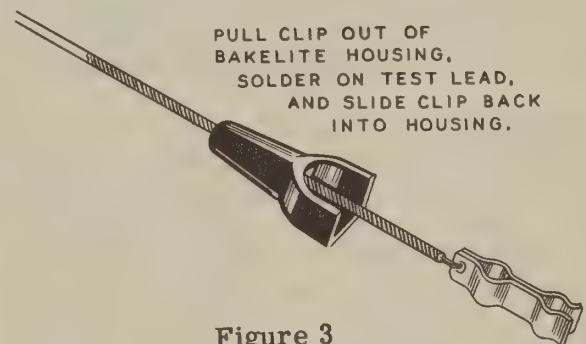

Figure 3
- () Connect a red 30 volt power transformer lead to CC3 (S).
- () Connect the red 100 volt lead to R2 (NS). (The red 250 volt lead is left unconnected at this time.)
- () Mount the .1 μ fd condenser between R2 (S) and Q3 (S).
- () Connect the black 0 volt transformer lead to N2 (S).
- () Connect the black 100 volt transformer lead to DD3 (S).
- () Connect the black 125 volt power transformer lead to DD1 (S).
- () Connect the white 0 volt transformer lead to PP2 (S).
- () Connect the 2500 Ω 5 watt wire-wound resistor between Z1 (NS) and Z2 (NS).
- () Run a wire from Z2 (S) to CC2 (S).
- () Connect the red 250 volt power transformer lead to Z1 (S).
- () Study Figure 3 and mount the grid clip on the grid clip test lead. Note that the metal clip section should be pulled out of the bakelite cap and the conductor of the test lead soldered to it. Do not use excessive solder as the clip is pushed back into the bakelite housing after the soldering has been completed.